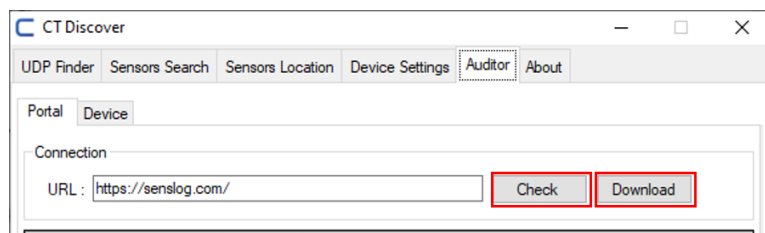

Figure 30 – Portal “Check” and “Download” buttons
- Insert the URL of Senslive and select the button “Check” to compare the Senslive files with the CT Discover software copy. The button “Download” will download to local computer the Senslive certified files (Figure 30).